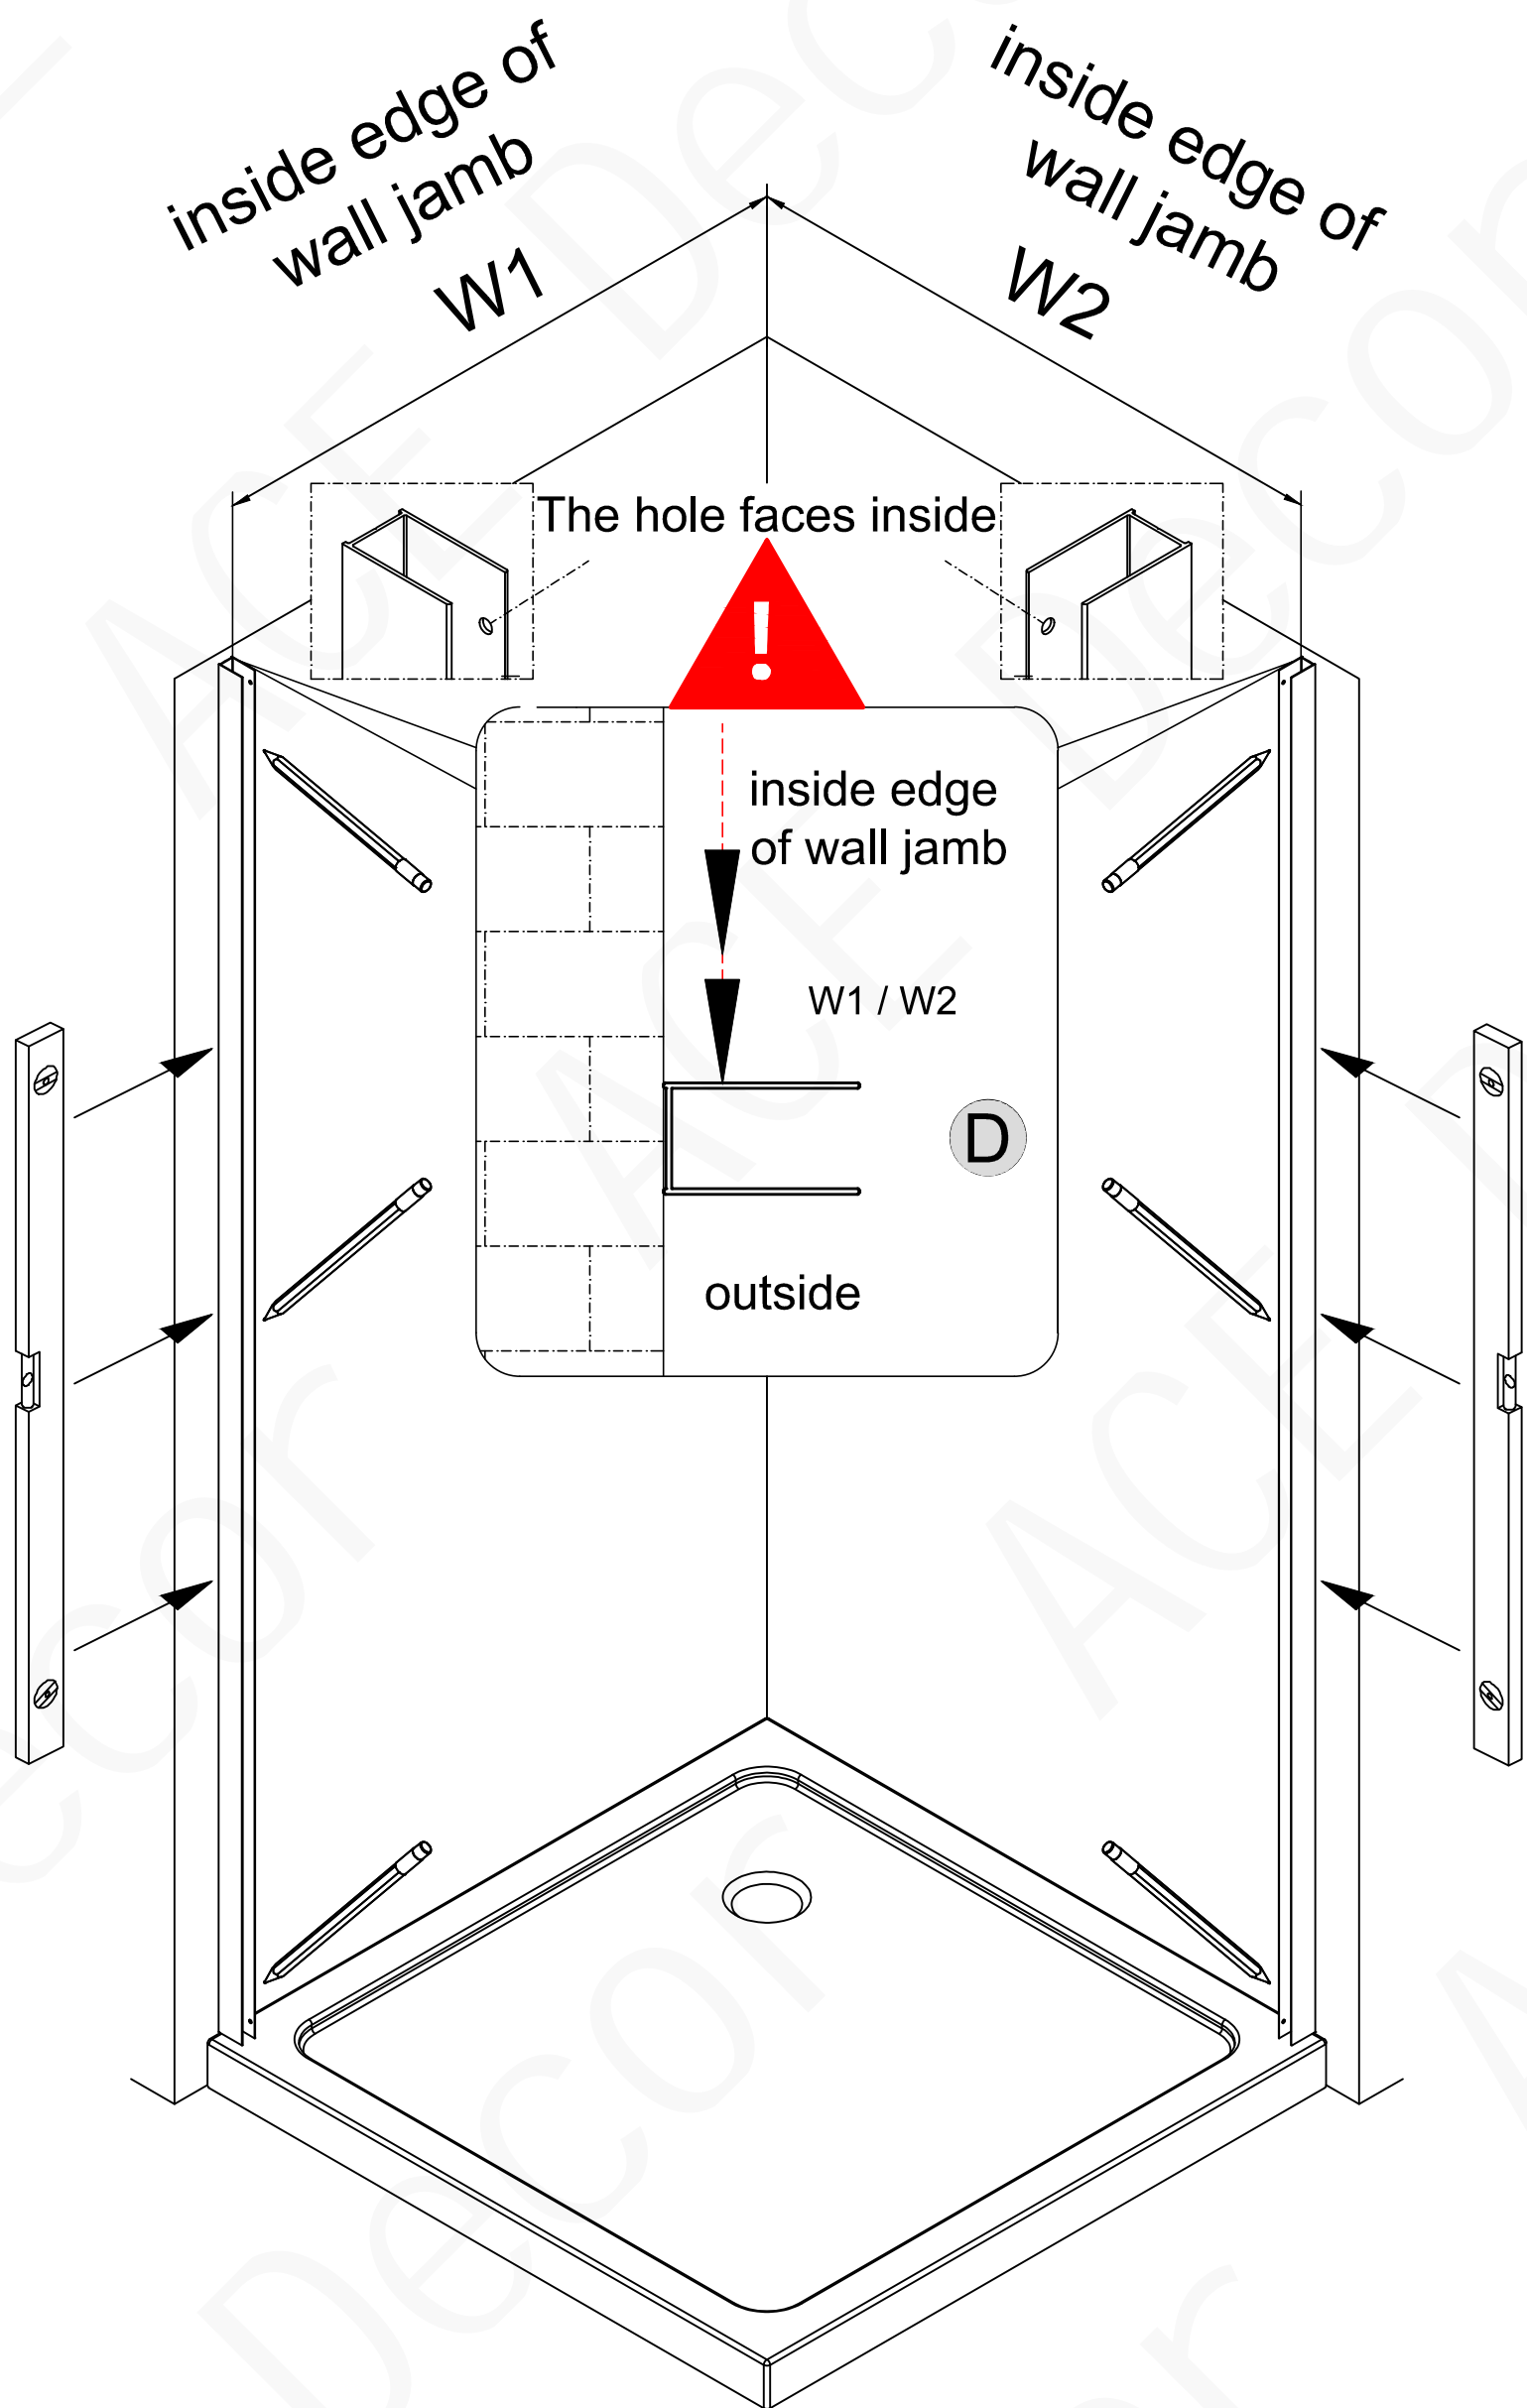

Fig 1
2. Place the **Wall Jamb (D)** against the walls and aligned with the new reference marks on the threshold. Use a level to plumb each Wall Jamb. (Table 1, Fig 1)